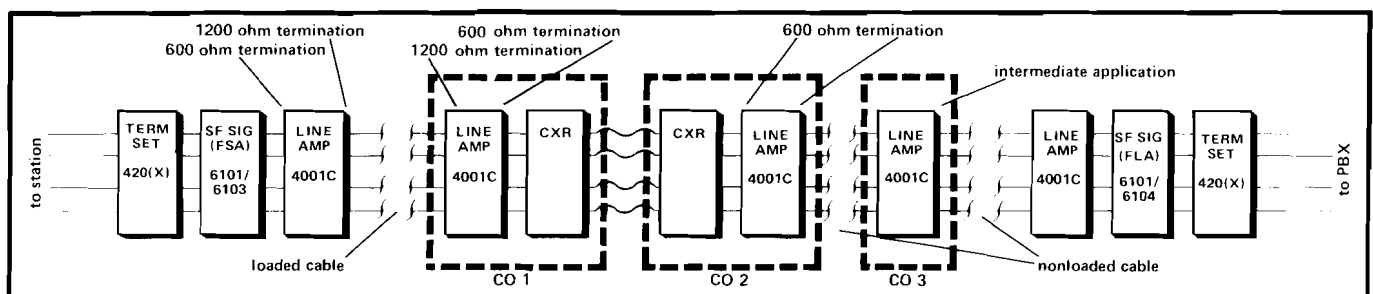

figure 2. Typical off-premises-station (OPS) circuit using 4001C Line Amplifiers
2.02 Because equalization is available in both channels (instead of in the receive channel only), the 4001C can be used not only as a terminal repeater but also as an intermediate repeater. Figure 2 shows a typical off-premises-station (OPS) circuit in which the 4001C is used in a variety of applications.